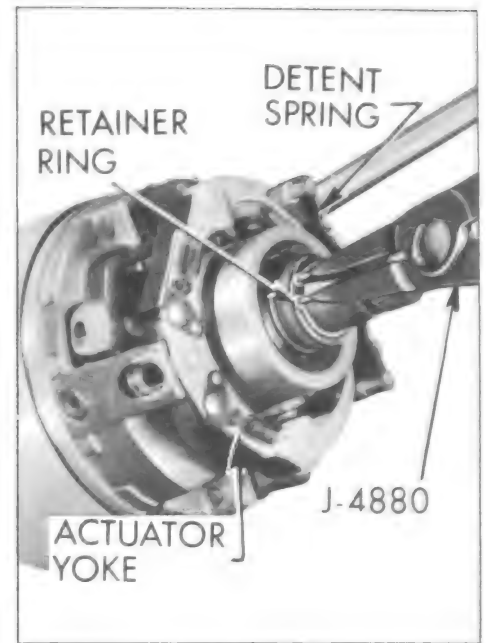

Figure 8-79—Removing Retainer Ring
7. Remove the upper shaft retainer ring using #2 Truarc Pliers J-4880. See Figure 8-79.